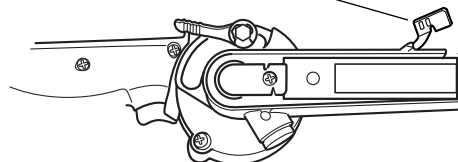

Fig. 5
- ( 2 ) Assemble arm tensioner and compression spring 6 into arm holder by pressing with arm cover as illustrated in Fig. 5 A.